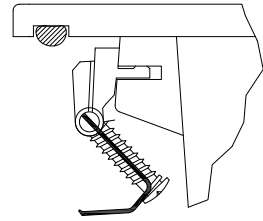

Fig 1.
7. Apply a generous continuous bead of silicone into the channel around the underside perimeter of the sink (fig1).